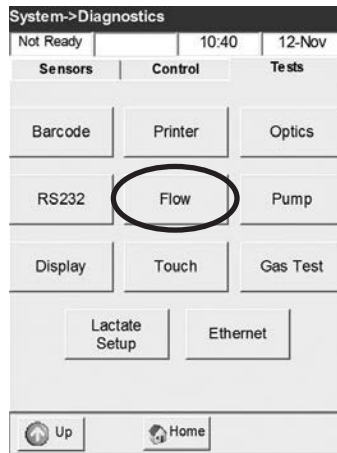

Fig. 7-23 Flow Test
- Press **<Flow>** to start the test (Fig. 7-23).